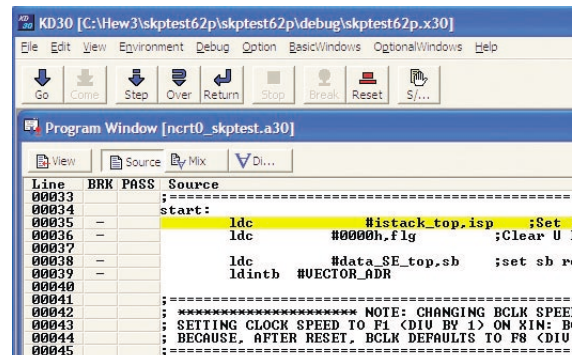

Figure 6. KD30 Program Window after download of skptest62P
- d) After initialization, the KD30 Program Window will appear and our program, “skptest62P.X30”, is automatically downloaded. The KD30 Program Window should look like Figure 6.